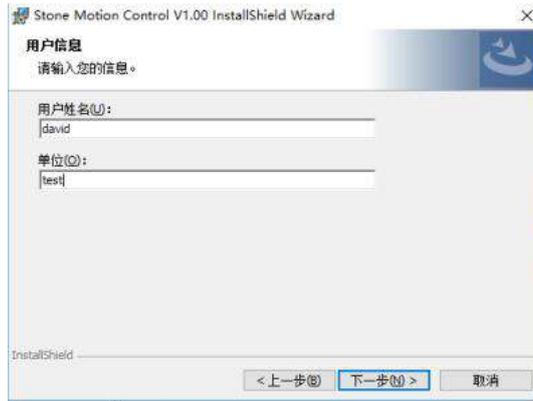

Figure 6-3 User information
4. Select “**I Agree**”, click “**Next**” and enter the user information, as shown in Figure 6-3.